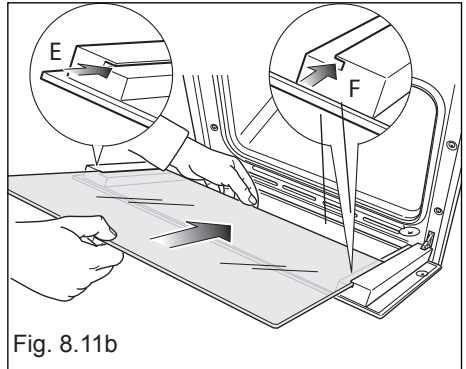
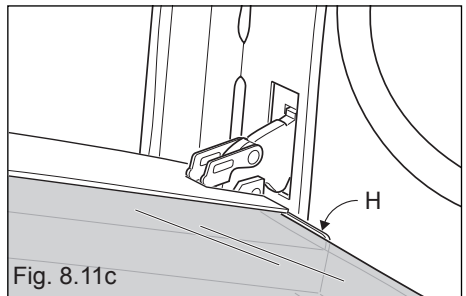

Fig. 8.11b
Fig. 8.11c
- Insert the pane in the left “E” and right “F” slide guides (fig. 8.11b), and gently slide it to the retainers “H” (fig. 8.11c).